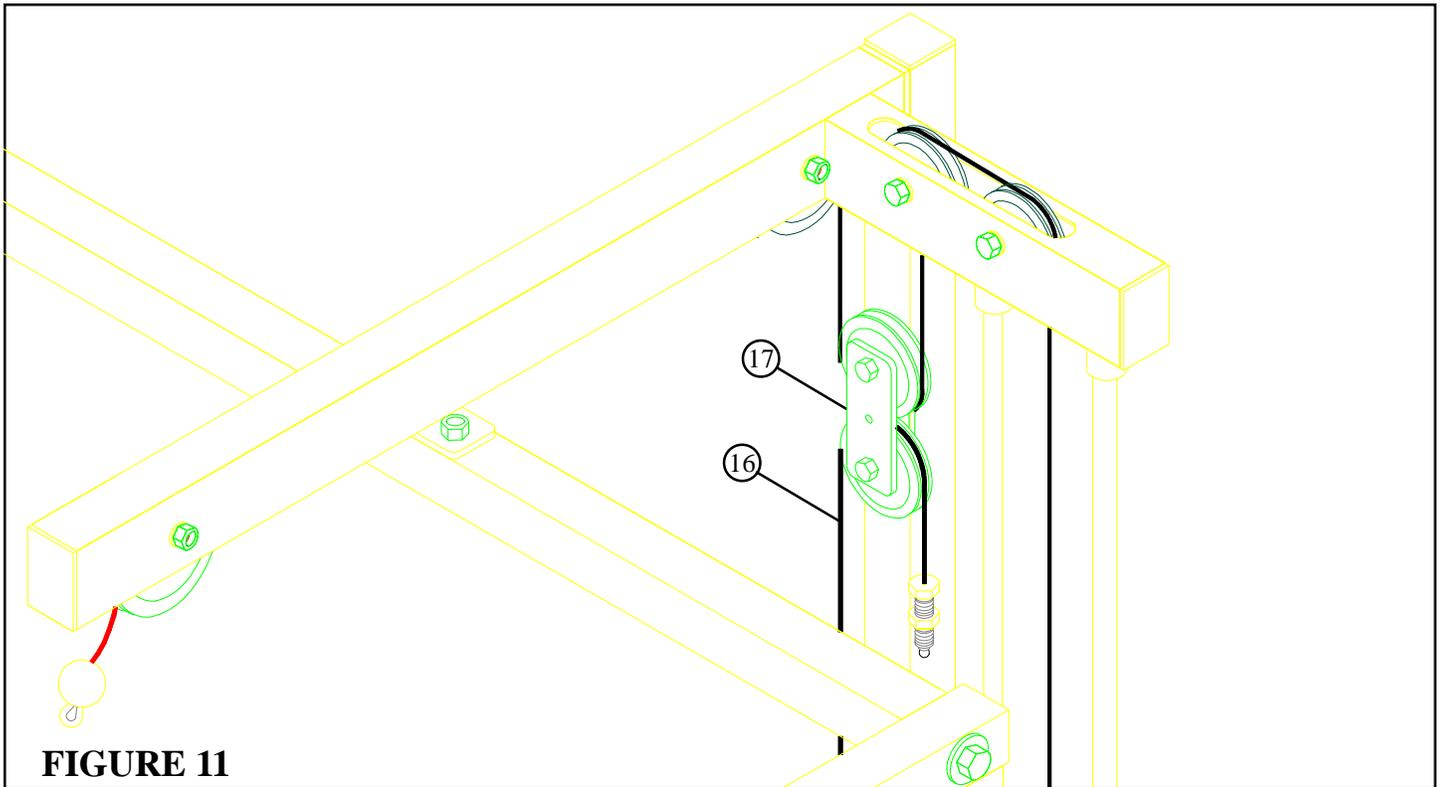

FIGURE 11
- Route the threaded end of the LOW ROW CABLE (16) around the bottom PULLEY of the PULLEY & PLATE ASSEMBLY (17) as shown in FIGURE 11.
- **SECURELY** tighten the BOLTS in the PULLEY & PLATE ASSEMBLY (17) as shown in FIGURE 11.